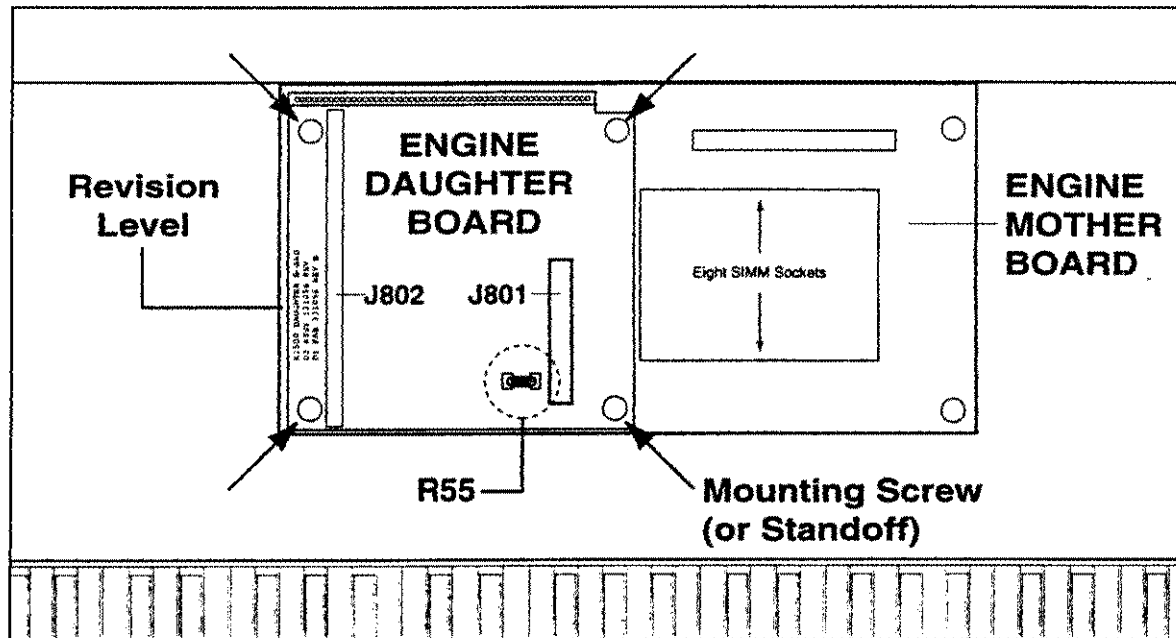

Figure 7.
9. Locate the Engine Daughter Board (see Figure 7). Determine the Engine Daughter Board's revision level, which is printed in white lettering on the left side of the board. If this Engine Daughter Board is REV B, C, D, or E, look for resistor R55 to the left of socket J801. If resistor R55 has not been removed, then follow steps 10 through 14 to remove it from this board. Otherwise, go to the Setup section on page 8.
Arrows in Figure 7 show the locations of the four screws. Set them aside after removal; you will use them to reattach the board before you install the Sampling Option Board.